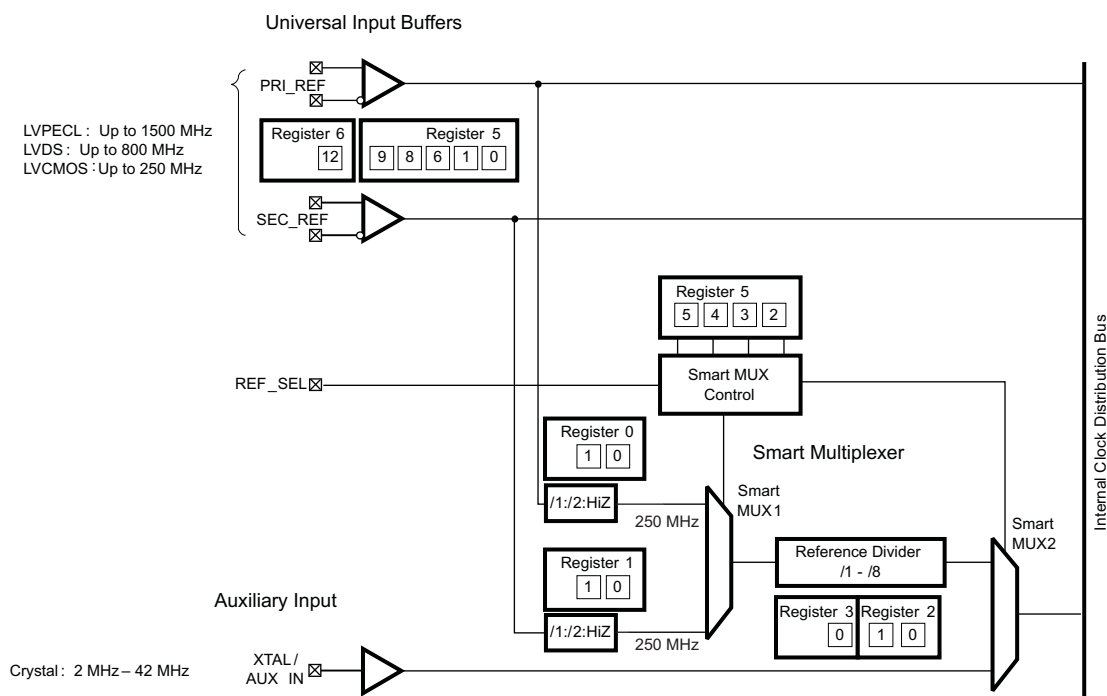

Figure 18. CDCE62005 Input Block With References to Registers
- O: The output divider value (see Figure 18 in Output Block for more details)
The Clock Divider Module receives the clock selected by the output multiplexer. The output multiplexer selects from one of four clock sources available on the Internal Clock Distribution. For a description of PRI_REF, SEC_REF, and SMART_MUX, see Figure 18. For a description of SYNTH, see Figure 28.